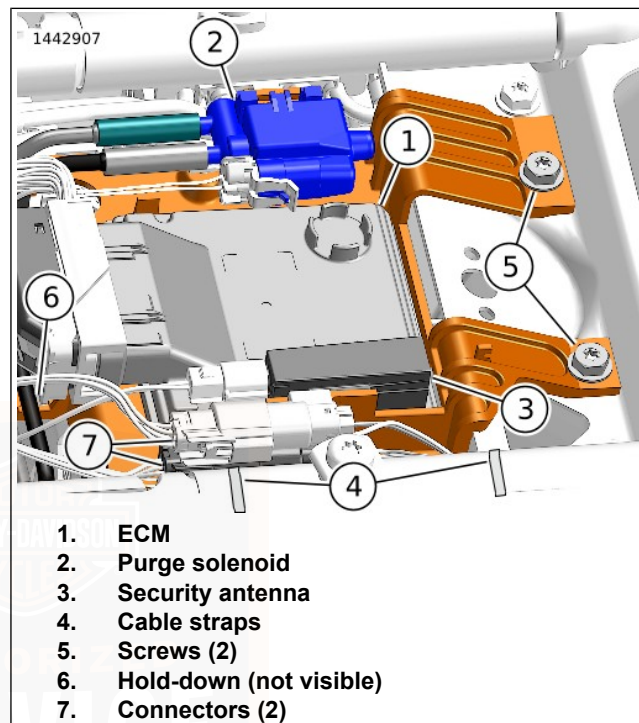

Figure 81. Top Caddy
2. See Figure 81. Release ECM (1) from top caddy. Move out of the way.
3. If present, move purge solenoid (2) up to release from top caddy.
4. **Models with security system:** Release security antenna (3) from top caddy and move out of the way.
5. Release connectors (7) from anchors on top caddy.
6. Remove fasteners (5).
7. Cut cable straps (4). Move harnesses to allow more clearance for the top caddy.
7. See Figure 81. Place top caddy into position and engage latch on hold-down bracket.
8. Fasten top caddy to frame crossmember with fasteners (5). Tighten.